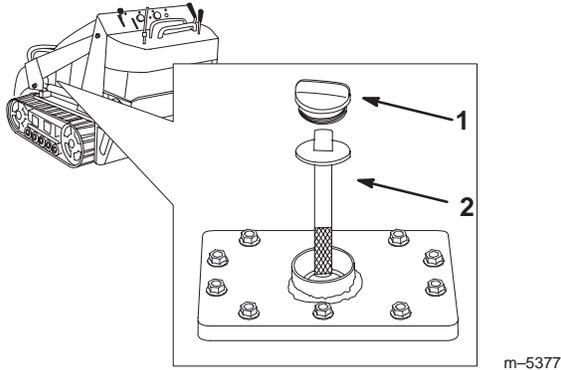

Figure 43
5. Remove the hydraulic tank cap and dipstick (Fig. 43).